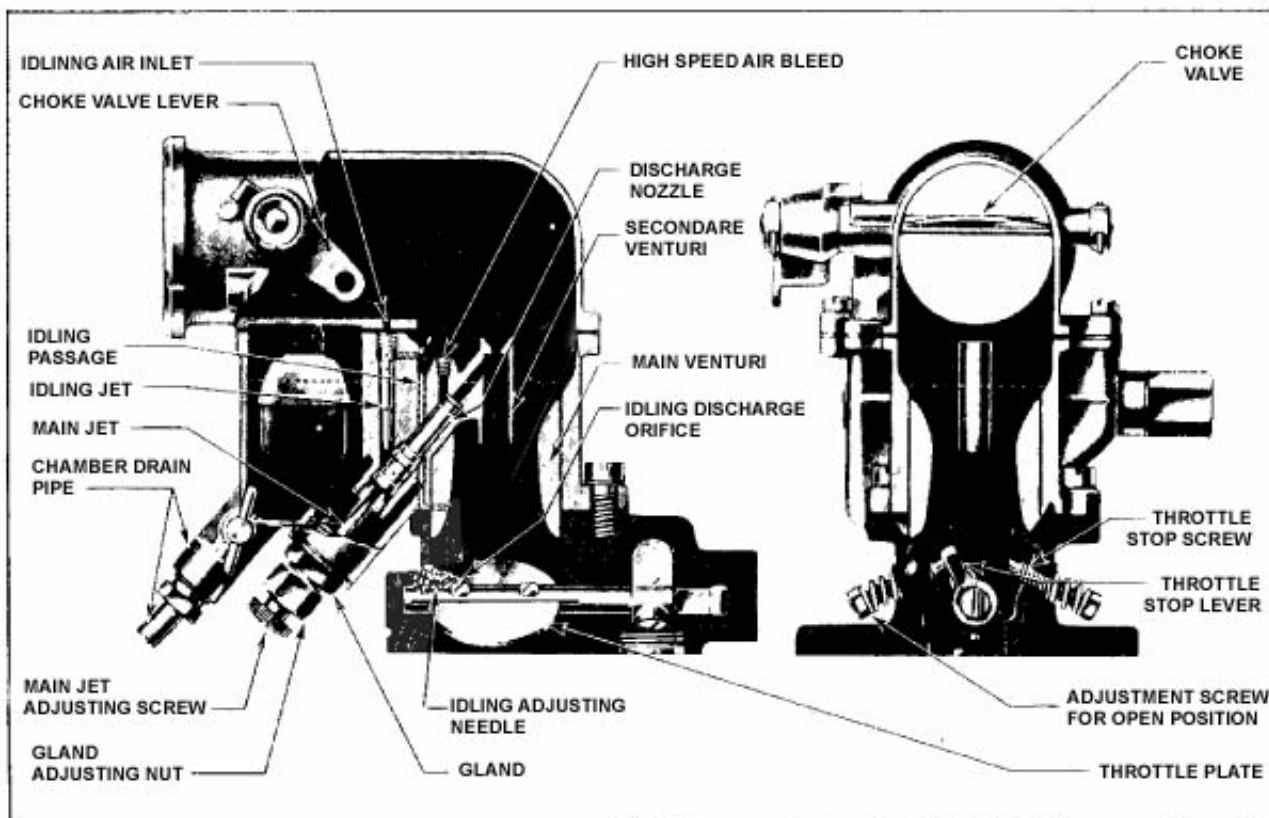

Fig. 34
8. Start the tractor and adjust the vaporiser and carburettor as desired. (See also pages 65 to 67 and Fig. 34.)